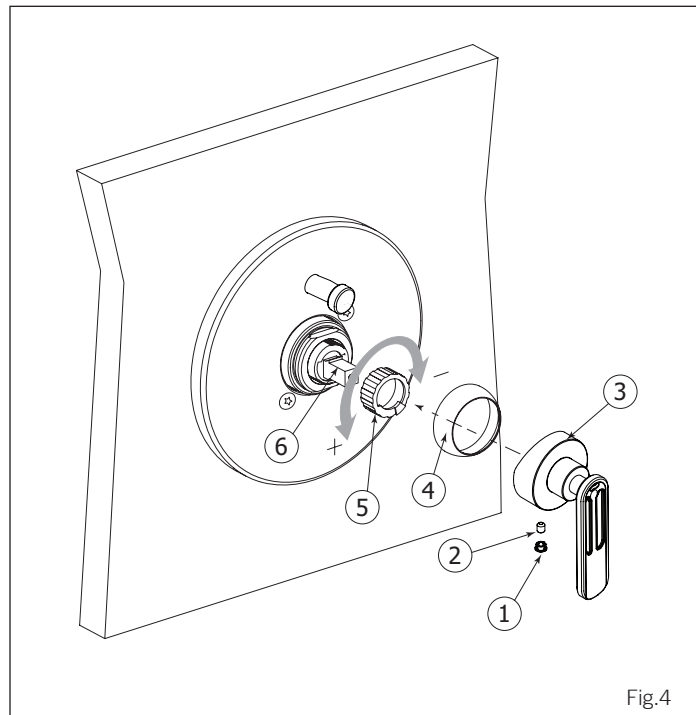

Fig.4
The highest temperature setting must be set at 120°F (49°C) or less. It can be adjusted following these steps: Remove the decorative cap (1), the set screw (2), the handle (3) and the dome cap (4) (Fig.4). Pull out the temperature limiting ring (5) from the cartridge (6). Gradually rotate it to the left to lower the highest temperature setting or towards the right to increase it.
Retirer le capuchon de finition (1), la vis de retenue (2), la poignée (3) ainsi que le capuchon en dôme (4) (Fig.4). Ensuite, retirer la bague de limite de température (5) de la cartouche (6). Tourner la bague graduellement vers la gauche pour diminuer la température maximale et vers la droite pour l'augmenter.